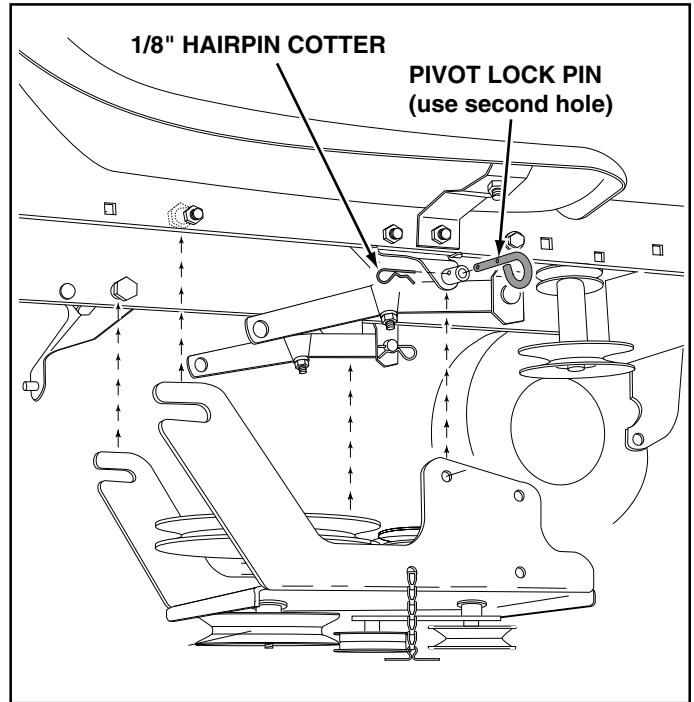

FIGURE 21
- Attach the clutch/idler assembly to the tractor frame as follows. Hook the assembly's notched arms onto the two shoulder bolts you assembled to the inside of the tractor frame. Lift the front of the assembly and attach it to the R.H. and L.H. hanger brackets using two pivot lock pins and 1/8" hairpin cotters. See figure 21.